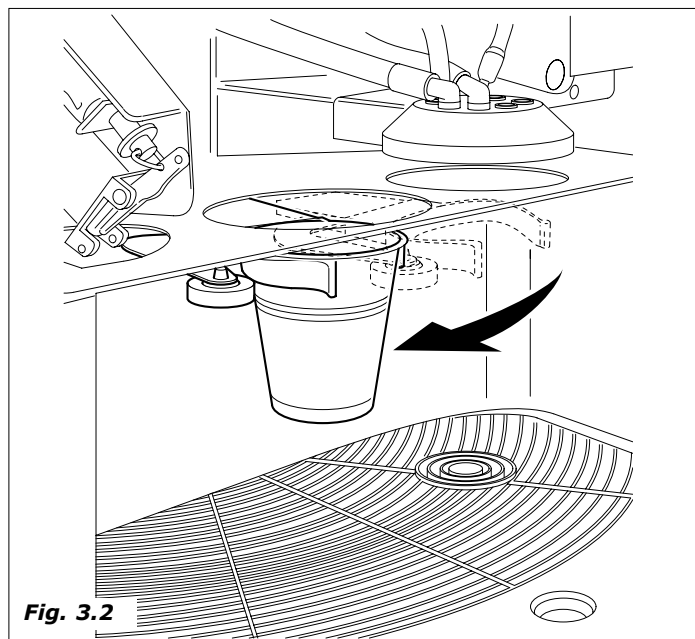

Fig. 3.2
- the cup translation device shifts from idle/dispensing position to the "cup dispenser" station (*Fig. 3.2*)